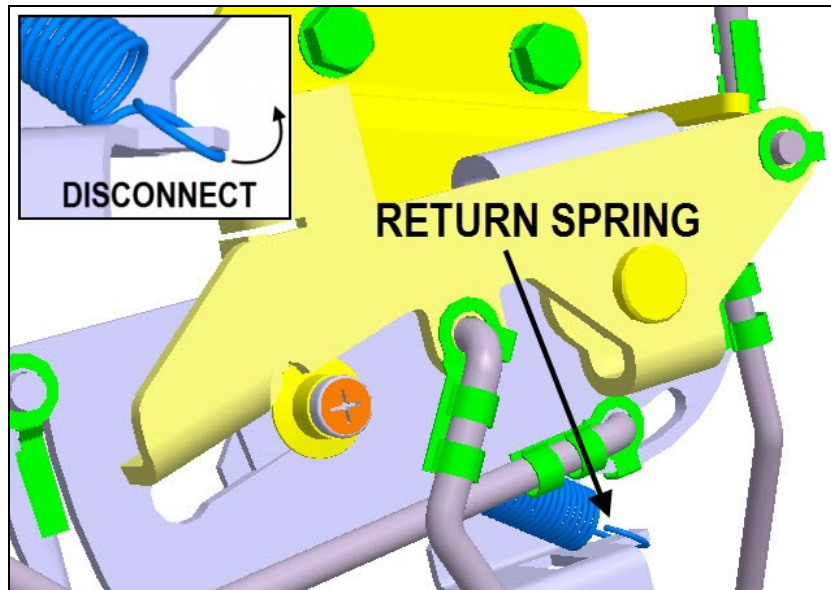

Fig.3
5. Disconnect the mechanism return spring (Fig.3).